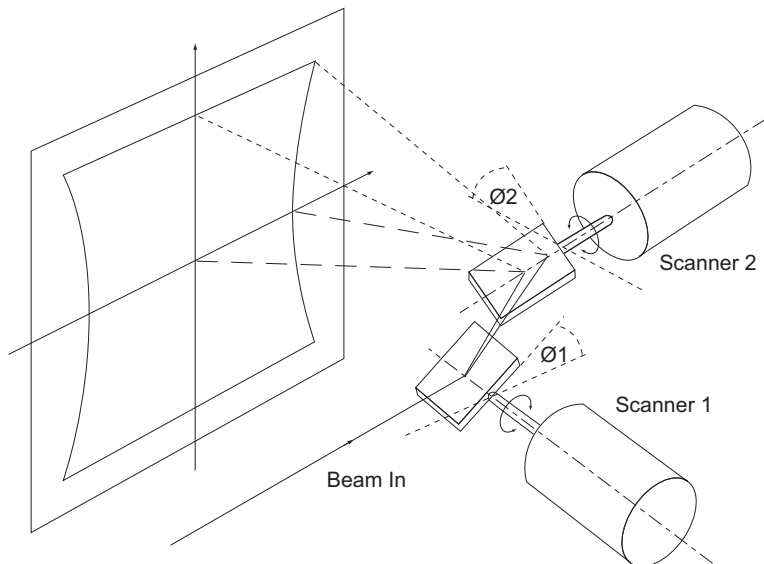

Fig. D.1 Field Distortion in a Two-way Mirror Deflection System
(1) The arrangement of the mirrors leads to a certain distortion of the image field – see Fig. D.1 below.